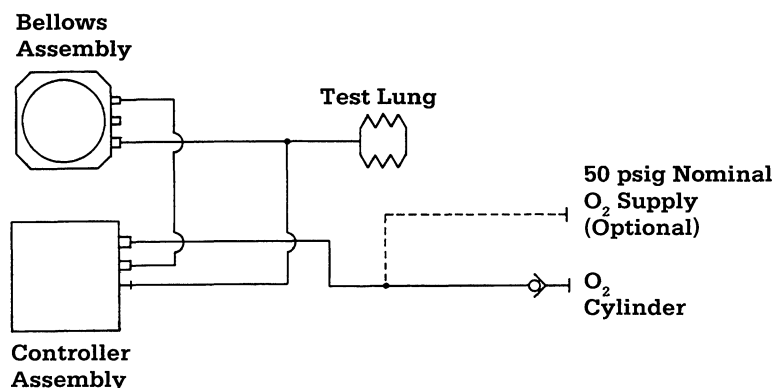

Figure 7-7
1. Set up the unit as in Section 7.15, Figure 7-7.